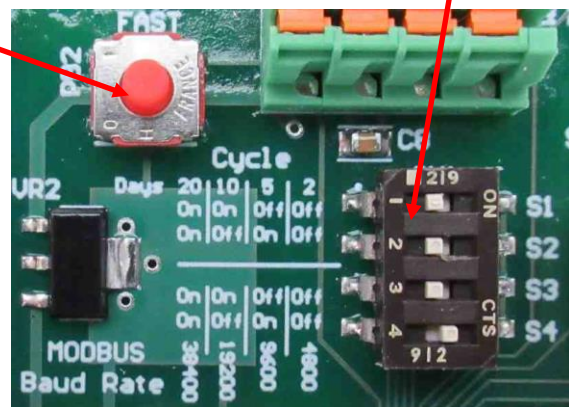

Figure 5 – Fast Mode & Cycle DIP
5. See Table 2 and Figure 5 below for positions of S1 and S2 for desired cycle frequencies. (Switch pictured set for 2-day cycle: S1-OFF, S2-OFF).